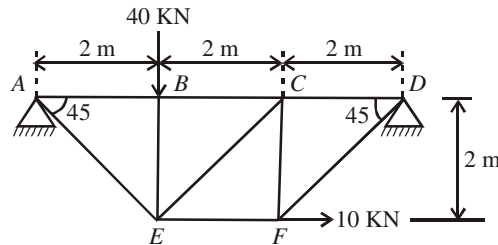

Fig 13.64
Q. 22: Determine the support reaction and nature and magnitude of forces in members BC and EF of the diagonal truss shown in fig 13.64. (May-01, (C.O.))